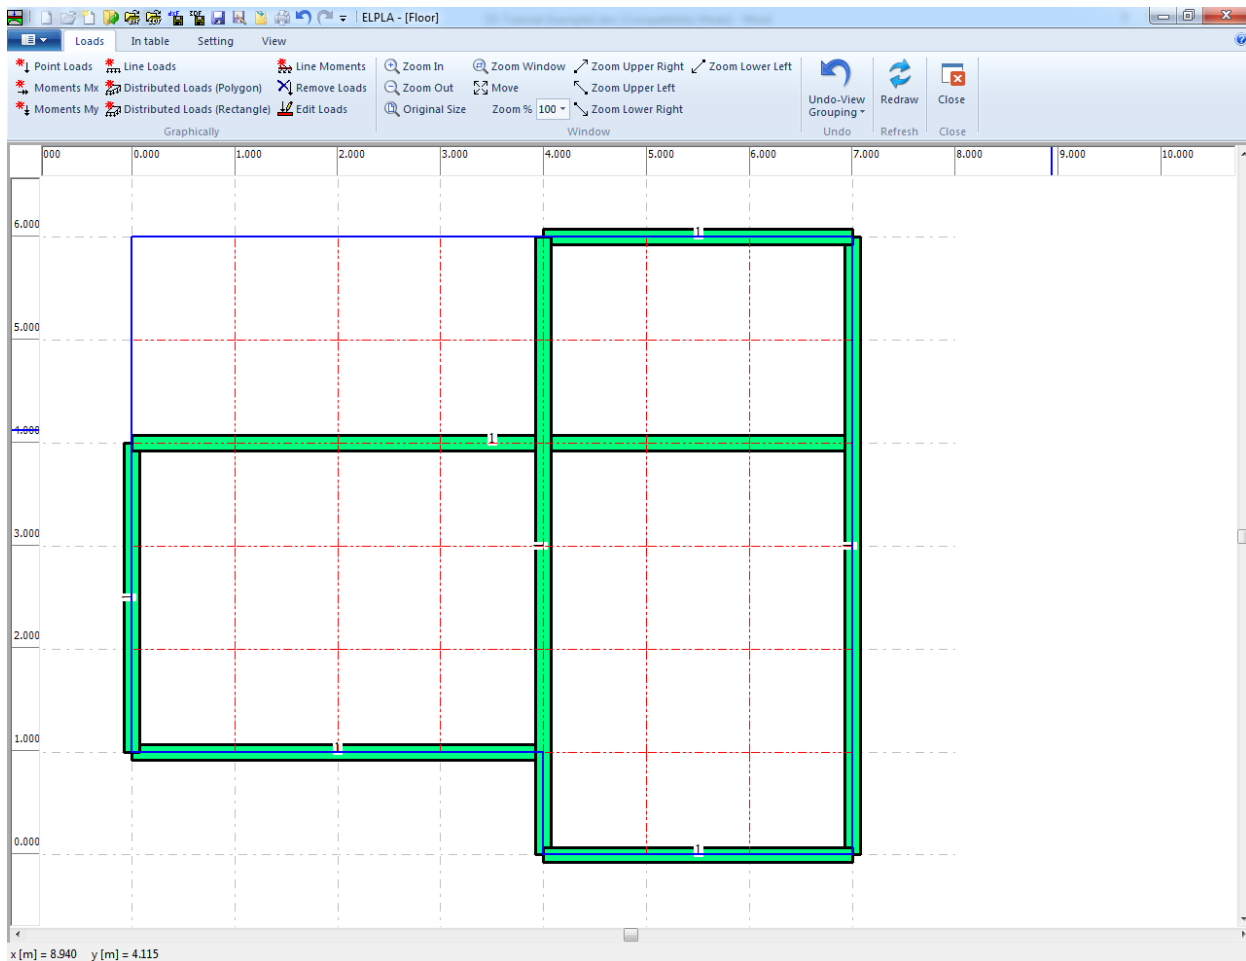
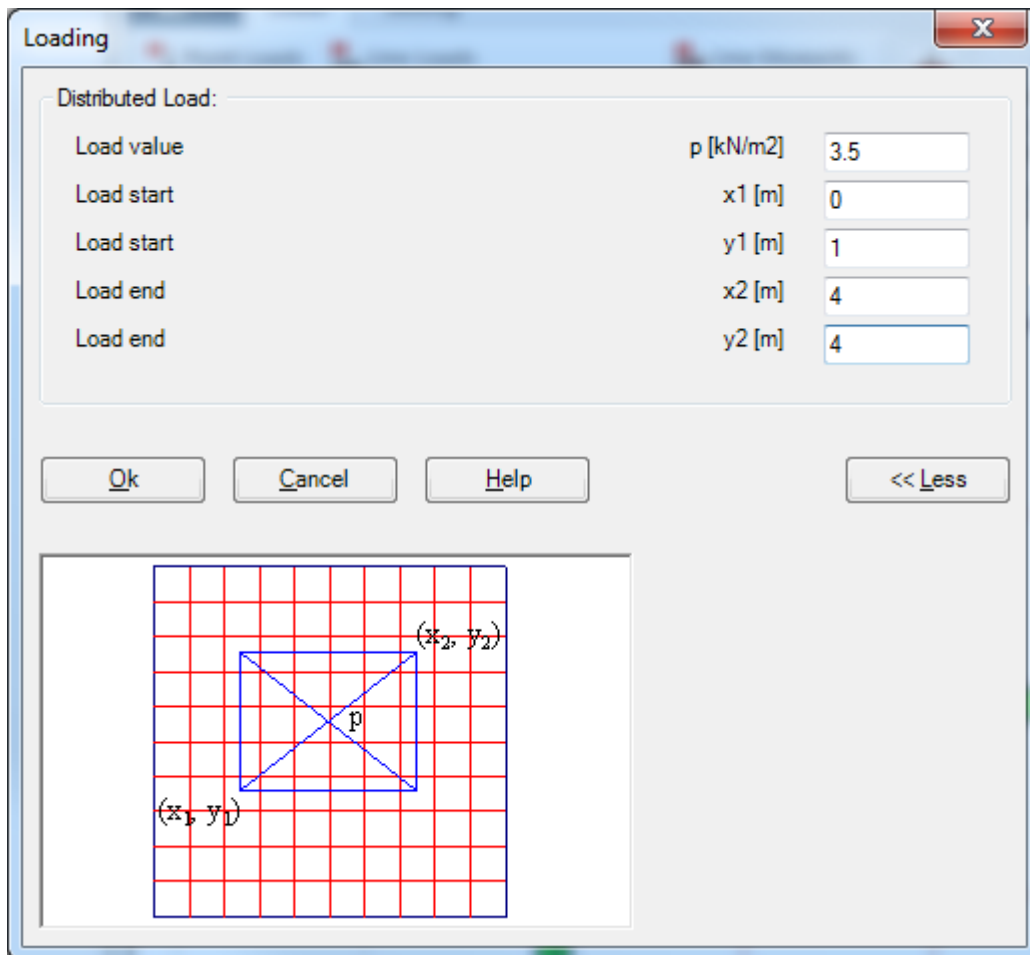

Figure 2.31 "Loads" Window
Figure 2.32 "Loading" dialog box
To define the loads choose "Loads" command from "Data" Tab. The following Window in Figure 2.31 appears with girders on the net.
- Choose "Distributed Loads (Rectangle)" command from "Graphically" menu in Figure 2.31. When "Distributed Loads (Rectangle)" command is chosen, the cursor is changed from an arrow to a cross hair. Then the load can be defined by holding the left mouse button down at the starting point of the distributed load. As the mouse is dragged, a box appears, indicating a distributed load is being defined. When the left mouse button is released, the following dialog box in Figure 2.32 appears with the load value and coordinates